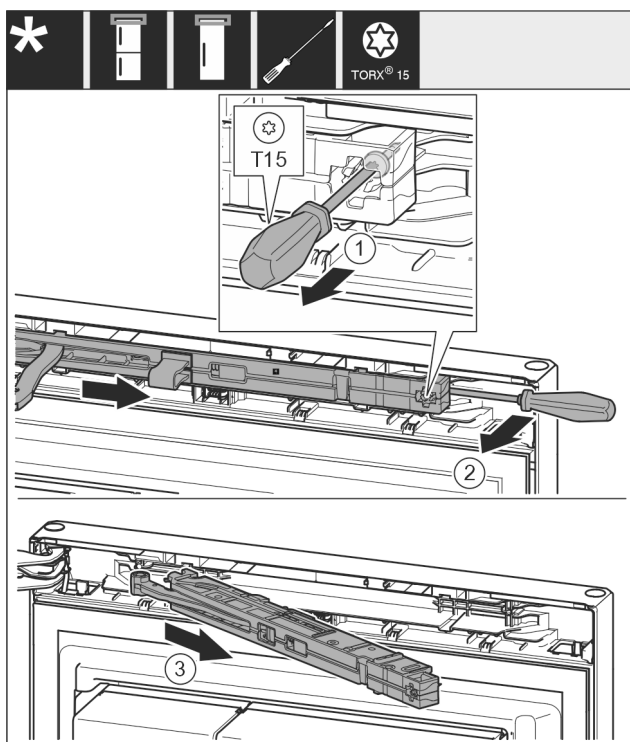

Fig. 11
- Undo the soft stop mechanism screw with a T15 screwdriver approx. 14 mm. Fig. 11 (1)
- Insert a screwdriver behind the soft stop mechanism on the handle side and rotate the unit forwards. Fig. 11 (2)
- Remove the soft stop mechanism. Fig. 11 (3)